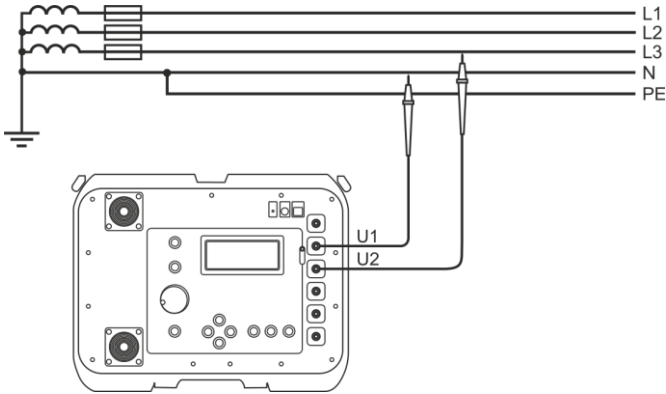

Fig. 11 Alternating voltage measurement
- Connect the test cables to sockets: **U1** and **U2** (Fig. 11)